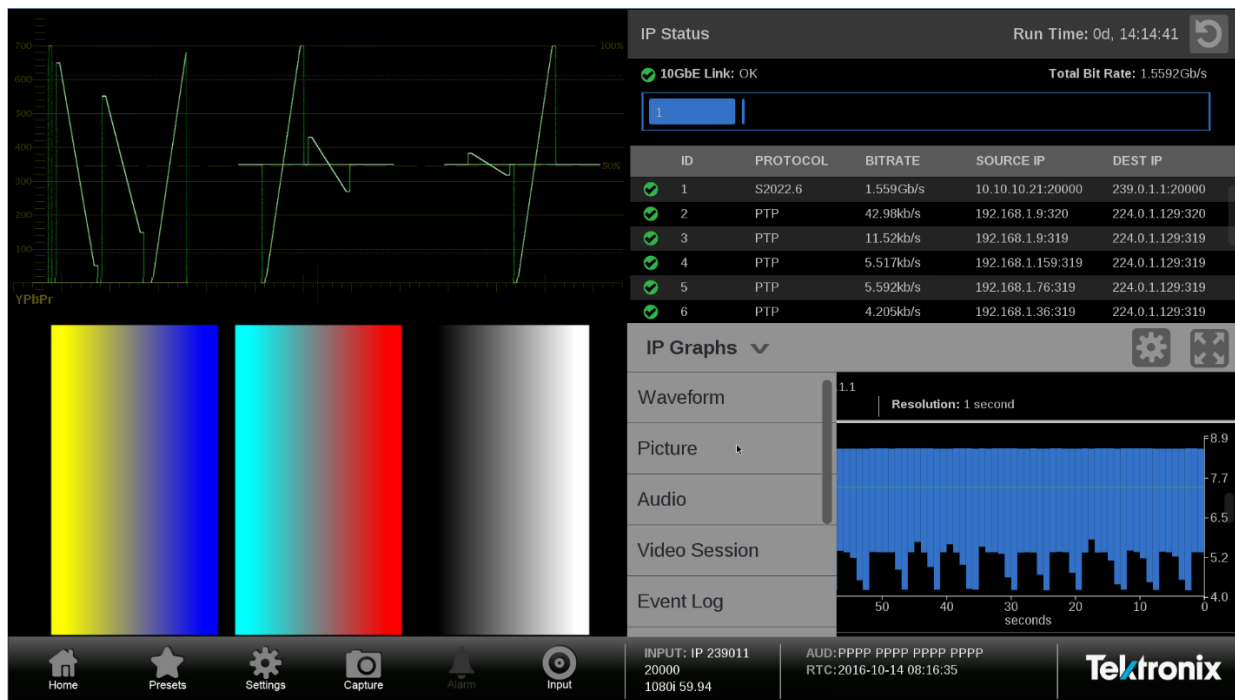

Figure 12: PRISM display in four-tile mode
**NOTE.** When the display in four-tile mode, you will need to scroll down through the list to access all of the applications. (See Figure 12 on page 19.)